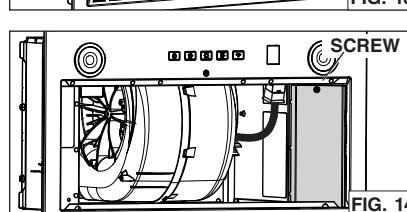

FIG. 14
3. Disassemble the electrical compartment cover (grey part in FIG. 14) from inside the unit by removing its retaining screw. Remove the parts bag behind the cover. Set aside the parts bag and the cover along with its screw.